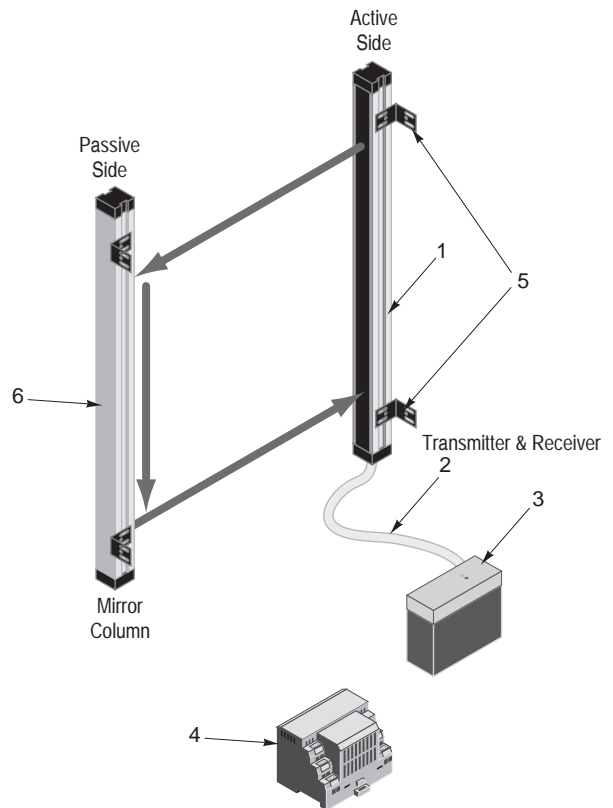

Figure 6: Single Beam PAC
**Components required for a single-beam Perimeter Access Control system (PAC), see Figure 6:**